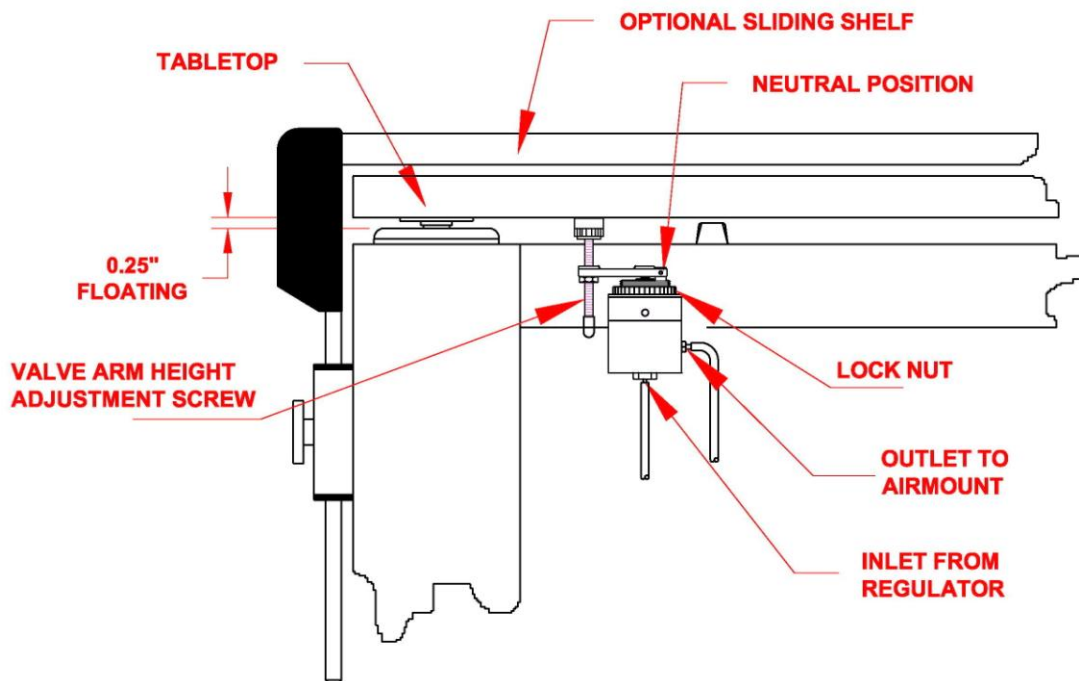

Figure 5. The VIBRA-LEVEL Valve Adjustment
8. When the Tabletop is completely “floating”, adjust each Valve Adjustment Screw so that the Tabletop is floating approximately $\frac{1}{4}$ of an inch (as shown Fig. 5). The tabletop should be level at this point since leveling was done prior to this by adjusting the mechanical leveling feet.